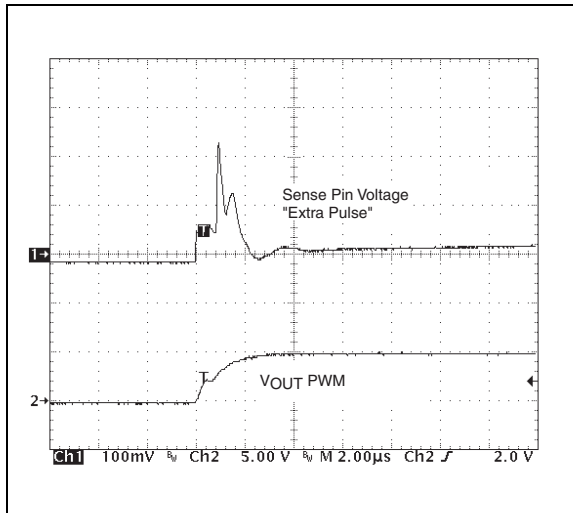

**FIGURE 7-9:** Four Current Pulses Per Revolution Fan.
**Example:** The full speed fan RPM rating is 8200 RPM. From this, the time for one fan revolution is calculated to be 7.3 msec, using the previously discussed equation. Using a current probe, the fan current can be monitored as the fan is operating at full speed. Figure 7-9 shows the fan current pulses for this example. The 7.44 msec window, marked by the cursors, is very near the 7.3 msec calculated above and is within the tolerance of the fan ratings. Four current pulses occur within this 7.44 msec time frame. Given this information, FPPR (bits 2-1<01>) in the Configuration Register should be set to '10' to indicate 4 current pulses per revolution.
This problem occurs mainly with fans that have a current waveshape like the one shown in Figure 7-9. For configurations where an NPN transistor is being used as the external drive device, the typical  $R_{sense}$  and  $C_{sense}$  scheme can continue to be used to sense the fan current pulses. In order to eliminate the extra current pulse, a slow down capacitor can be placed from the base of the transistor to ground. A 0.1  $\mu F$  capacitor is appropriate in most cases. This arrangement is shown in Figure 7-11. This capacitor will help to slow down the turn-on edge of the transistor and reduce the amplitude of the extra current pulse.